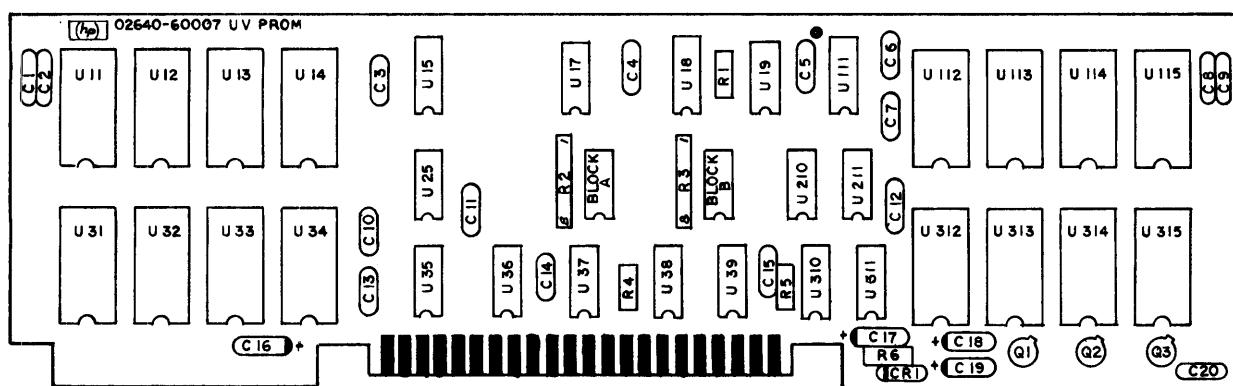

Figure 3
3.0      **FUNCTIONAL DESCRIPTION.** Refer to the block diagram (figure 1), schematic diagram (figure 2), component location diagram (figure 3), and parts list (02640-60007) located in the appendix.